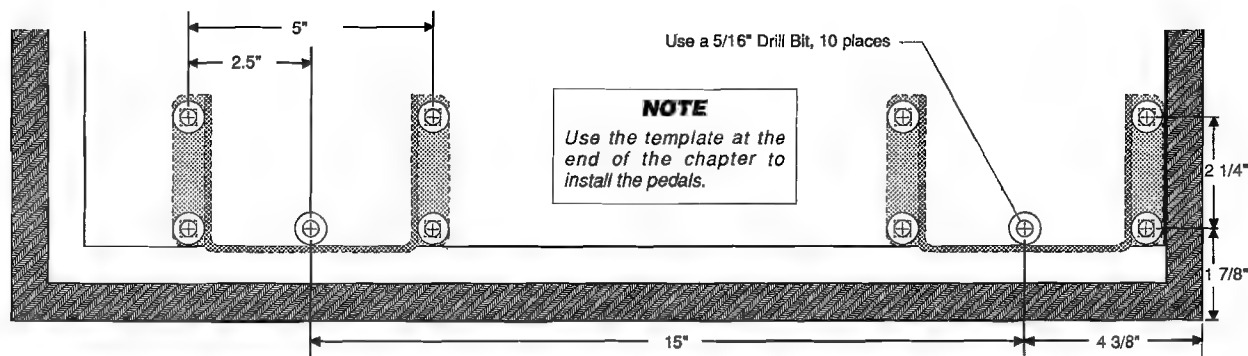

Figure 1-2 Installing the Pedals on the Game
5. Cut the copy of the pedal installation template apart. Put the pieces on the the cabinet according to the dimensions shown in Figure 1-2 and on the template.